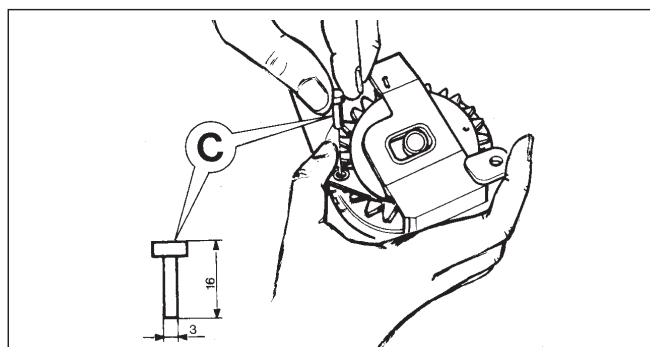

Fig. 20
- Before dismantling, the recoil spring must be locked by inserting pin **C**. (Fig 20).
- Remove locking pin (Fig 20-**C**) and slowly release spring.